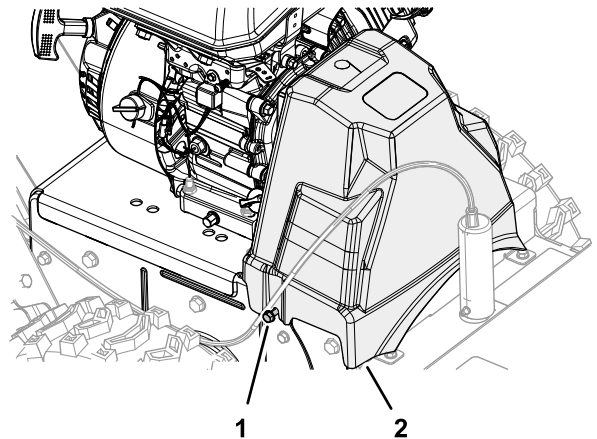

Figure 43
1. Align the slots in the belt cover with the 2 flange-head screws (Figure 43).
2. Assemble the belt cover onto the machine (Figure 43).